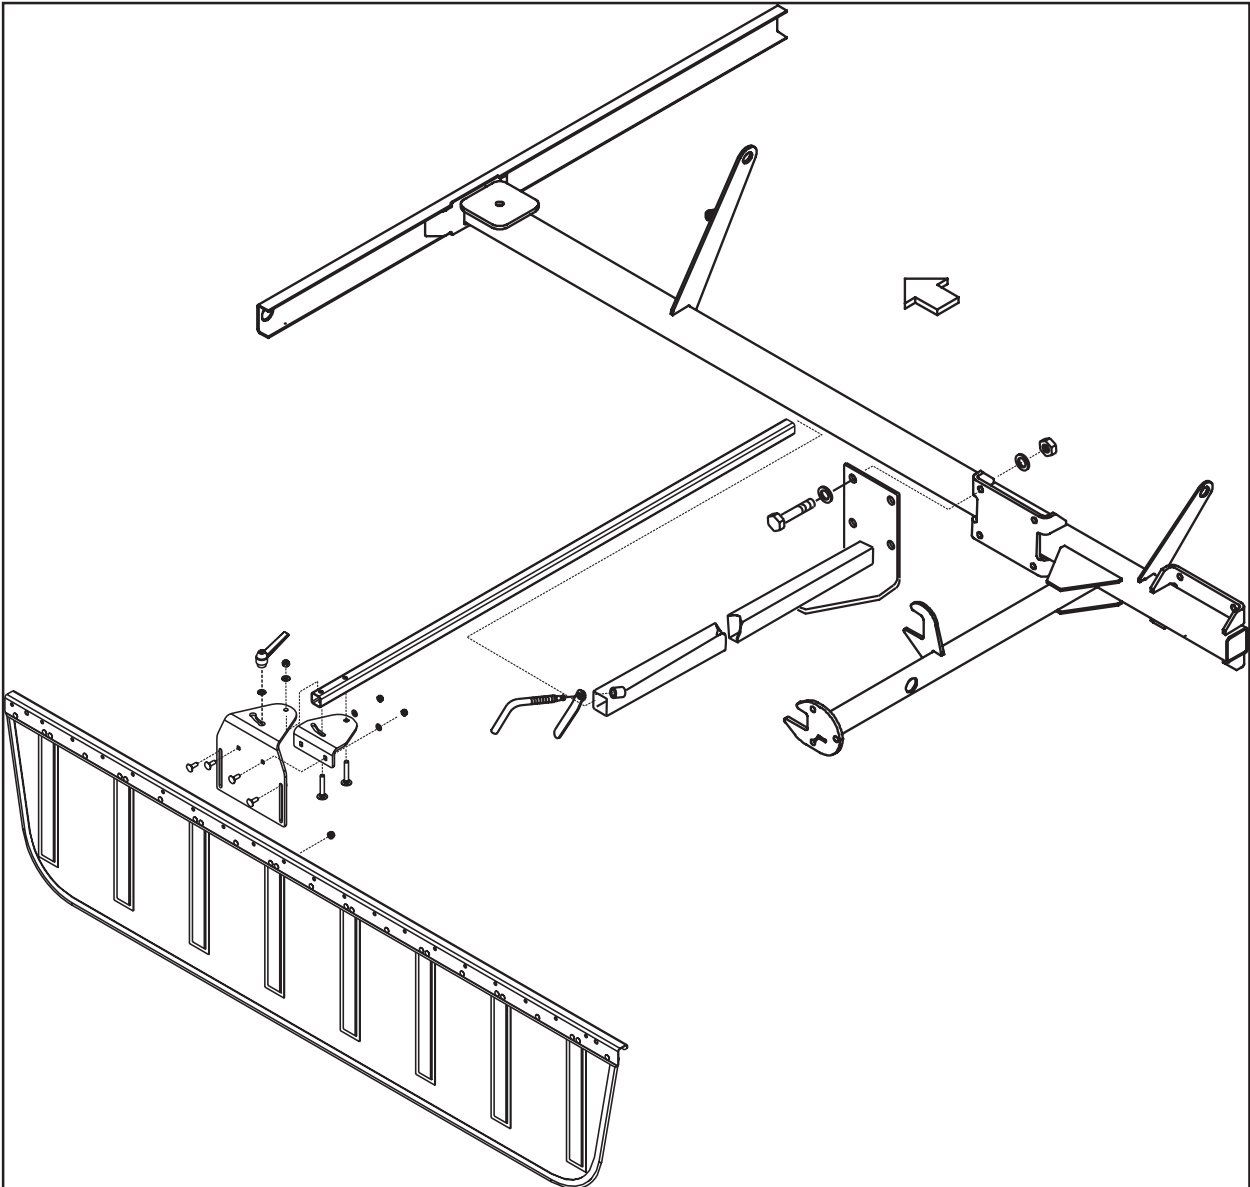

Fig. 3-28
Connect pre-assembled swath sheet (F) to the protecting frame and the add-on parts from bag T (fig. 3-28).